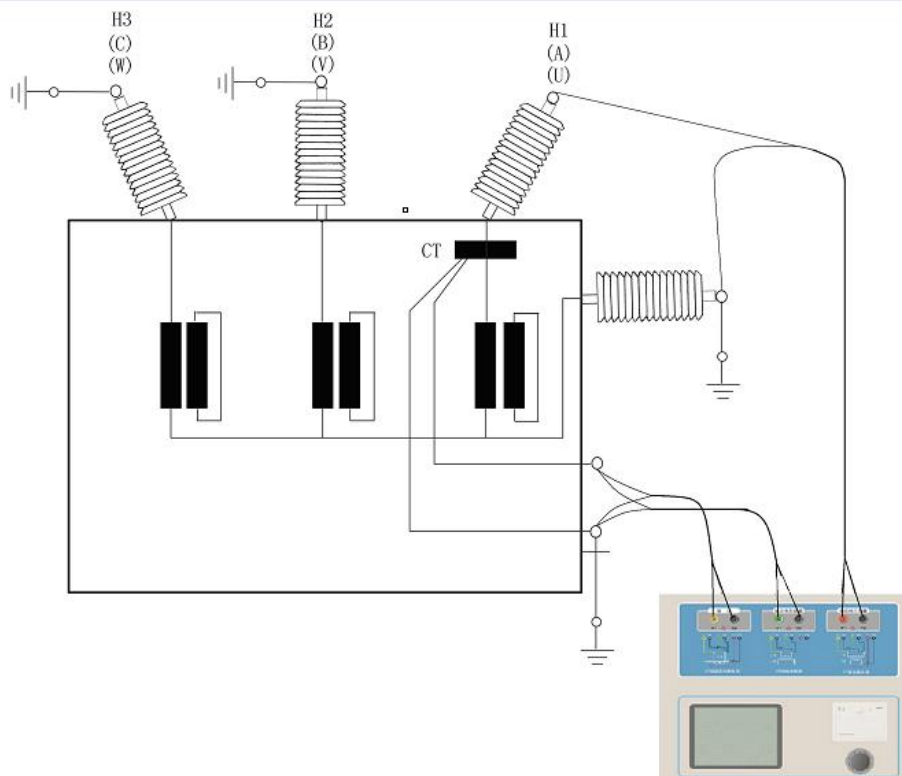

Figure D.3 VKGZ-HII CT PT Analyzer on the transformer bushing testing at the time of CT Connection
2. VKGZ-HII CT PT Analyzer for transformer testing casing CT Connection shown in Figure D.3.